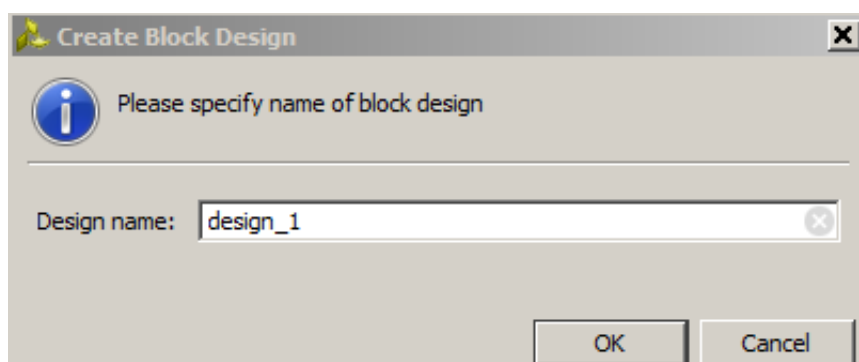

Figure 22: Create Block Diagram Dialog Box
13. In the **Create Block Design** dialog box, (Figure 22), keep the default name, **design\_1**, and click **OK**.